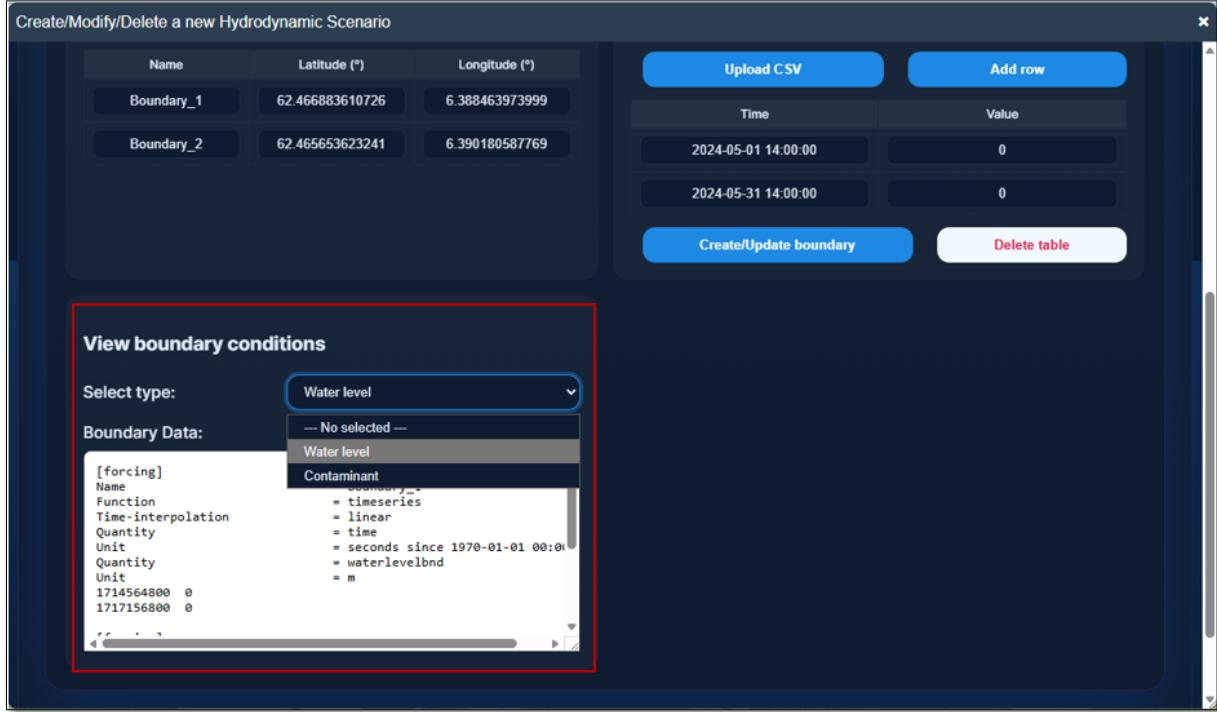

Figure 2.20. View assigned sub-boundary conditions
- *View added sub-boundary condition:* After all data for the sub-boundary condition is prepared, the user can recheck these boundary conditions via the “**View boundary conditions**” panel (**Figure 2.20**).